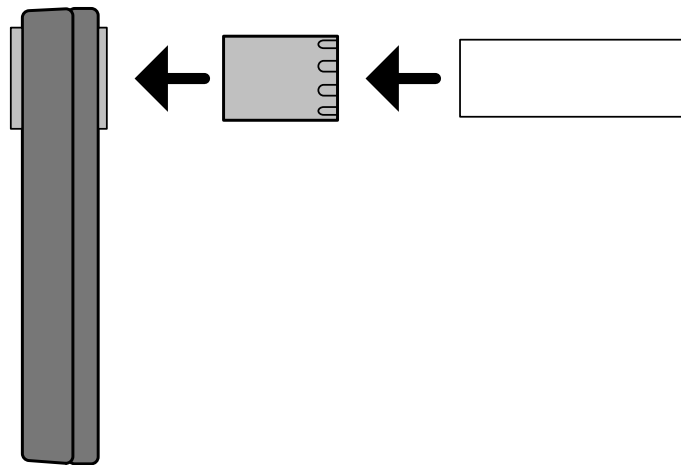

Figure 3 – Connection of measuring turbine and mouthpiece
3.1.4 Set a disposable turbine in bushing of the spirometer. What follows is install a disposable mouthpiece to turbine sensor. (Figure 3). Necessary to ensure leakproofness joining of the mouthpiece.